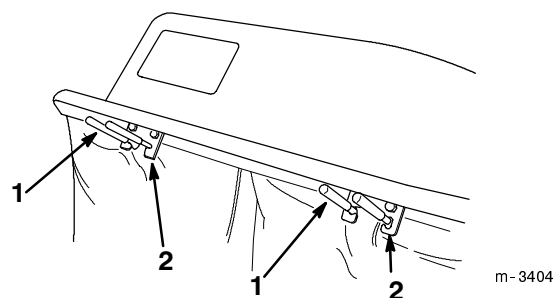

Figure 10
- A. Lift the rear of the bag up to the bag cover. Squeeze the bag handles and allow them to snap into the bag frame brackets (Fig. 10).
6. Lift the rear of the bag up to the bag cover. Squeeze the bag handles and allow them to snap into the bag frame brackets (Fig. 10).